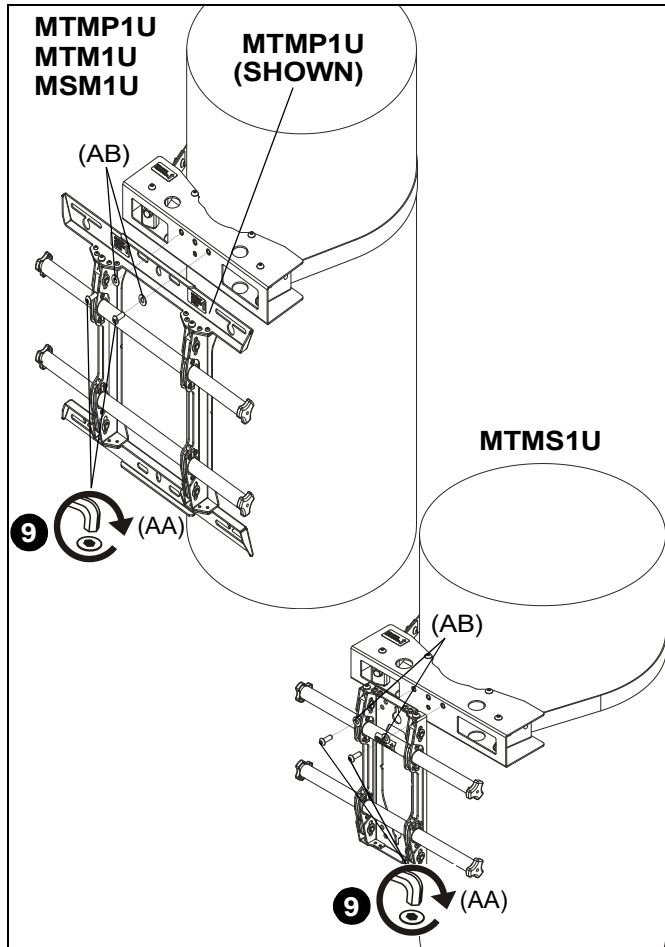

Figure 5
- Use two 5/16-18 x 7/8" button head cap screws (AA) and two .750x.350x.060 spacers (AB) to secure mount to top column clamp (D). (See Figure 5)